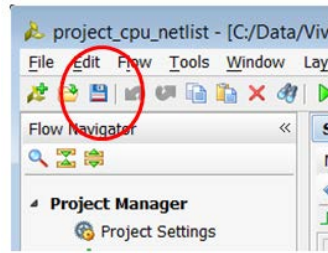

Figure 11: Save Constraints to Disk
23. The timing constraints wizard creates all timing constraints in-memory. To save the constraints to disk, you must click the save icon from the main Vivado toolbar as shown in Figure 11.